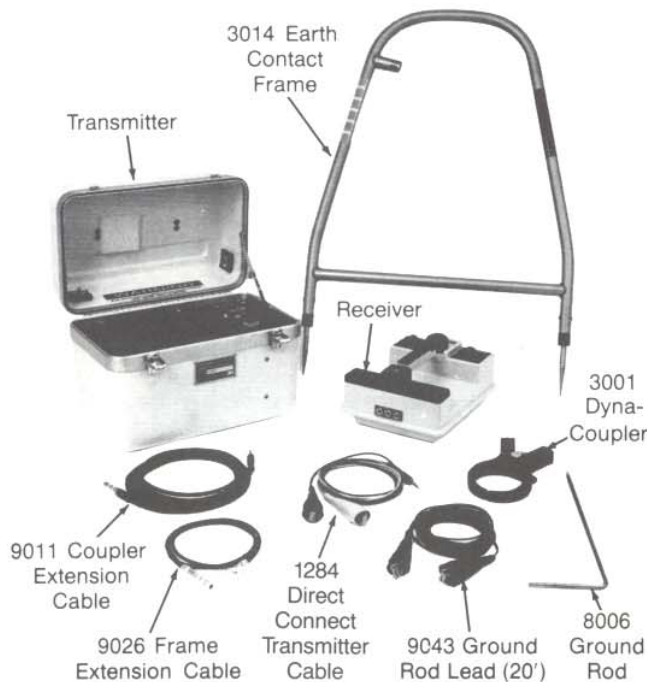

Fig. 8 — The 573A/P Sheath Fault and Cable Locator with Accessory Units
2.02 **573A/P TRANSMITTER AND RECEIVER:** The 573A/P consists of a transmitter, a receiver, and accessory items (Fig. 8). The transmitter and receiver cases are made of high-density polyethylene for light weight and high durability, and are colored bright yellow for visibility. Both are water-resistant in wet-weather operation. For compact storage and carrying, the receiver and accessories fit into the transmitter case. To preserve battery life, "off" switches are activated on both Transmitter and Receiver when the receiver is fitted into the transmitter case. A stainless steel ground rod is clipped inside the set's lid.